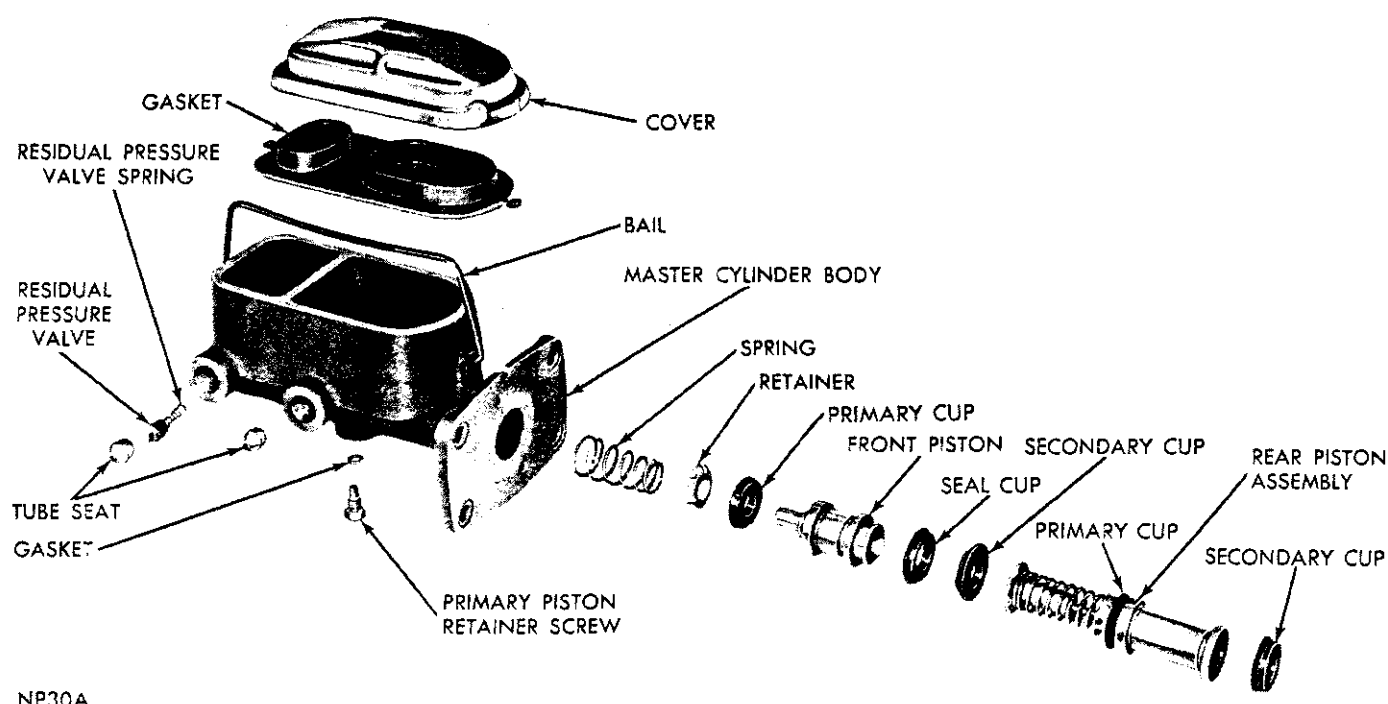

Fig. 4—Tandem Master Cylinder (Exploded View)
(1) Carefully work primary cup on end of front piston with the lip away from piston (Fig. 4).
(2) Carefully work second seal cup over rear end of piston and into second land. (Be sure lip of cup is facing front of piston). (Fig. 4).
(3) Carefully work rear secondary cup over piston and into rear land. The lip must be facing toward rear (Fig. 4).
(4) Slide cup retainer over stem of front piston with beveled side away from piston cup (Fig. 4).
(1) Carefully work secondary cup over rear end of rear piston with lip of cup toward front (Fig. 4).